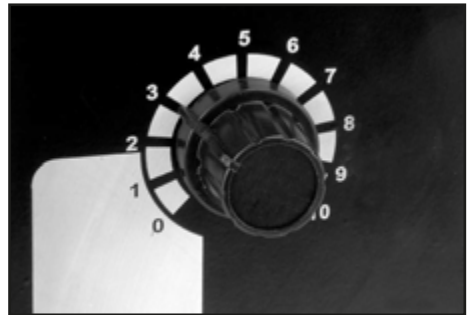

FIG.7
9.3 WIRE SPEED ADJUSTMENT - FIG. 7